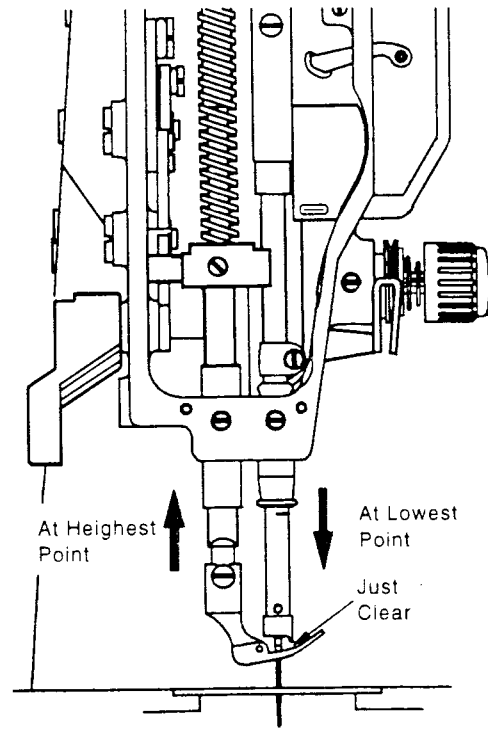

Fig.5
2. When presser foot is at its highest point and needle bar is at its lowest, top of presser foot should clear lower end of needle bar thread guide, as shown in Fig. 5.